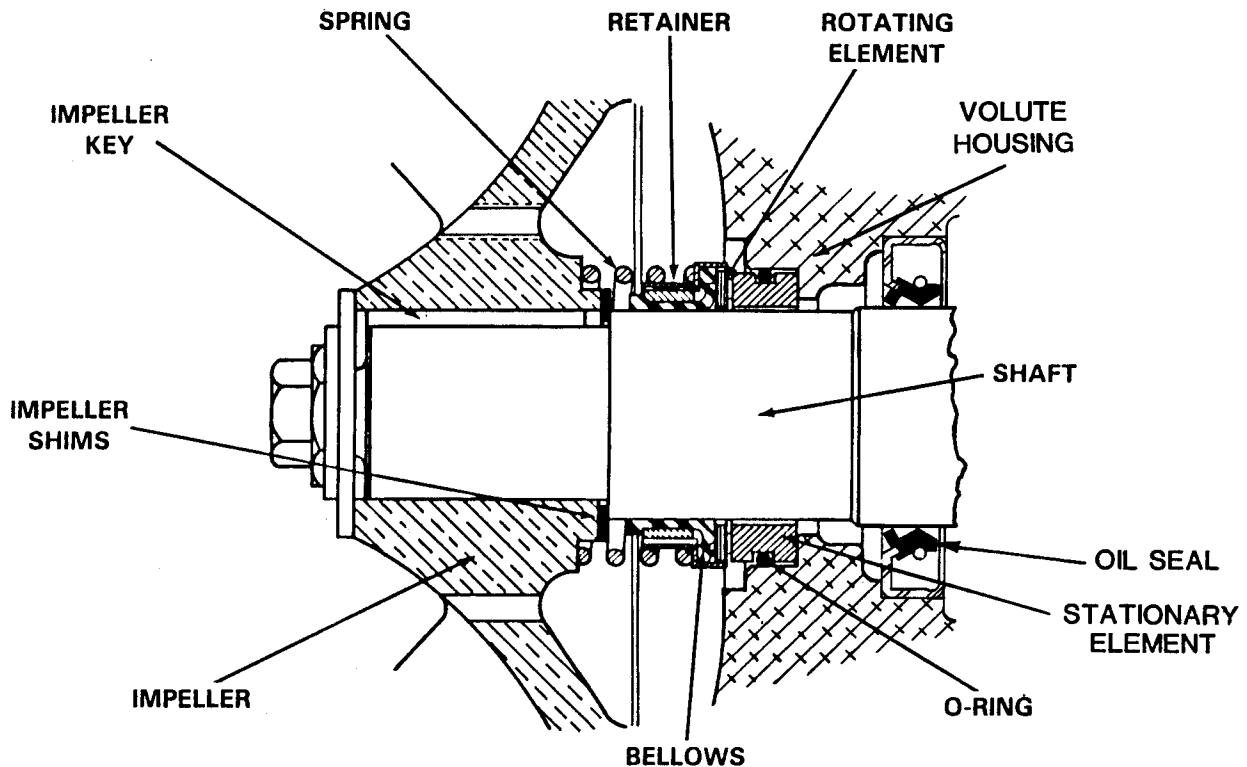

Figure 4. 25271-903 Seal Assembly
Press the gearbox oil seal (11) into the pump casing with the lip positioned as shown in Figure 1 (see Figure 4 for detail of seal area).
To ease installation of the seal, lubricate the shaft and stationary element O-ring with water or a very **small** amount of oil, and apply a drop of light lubricating oil on the finished faces. Assemble the seal as follows, (see Figure 4).